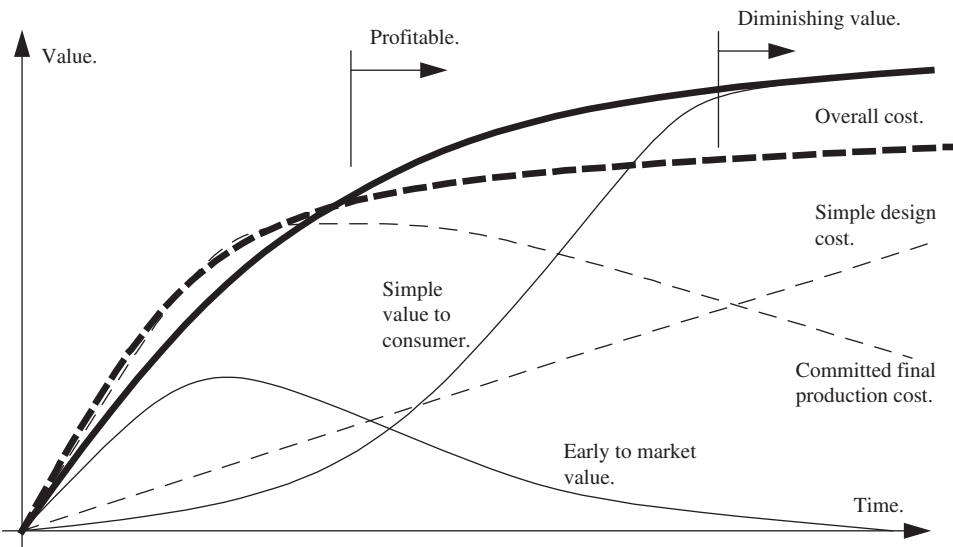

FIGURE 7.6
Design activity adds value with some cost, as illustrated in Figure 7.6. The curves shown in the graph are not universal, numerically accurate, or complete, but the concepts are useful for planning. Before a certain point, the design is simply not ready for market because (1) it will cost too much to produce, (2) many technical problems remain, and (3) it is lacking many features the customers want. However, a product that enters a market sooner can have a novelty advantage. Early in the design process the technical decisions are very far reaching and valuable. With each generation of the product the design matures, changes decrease, and eventually become fine tuning and optimizing. Design activity may add value that the consumer is not willing to pay for. At the upper extreme